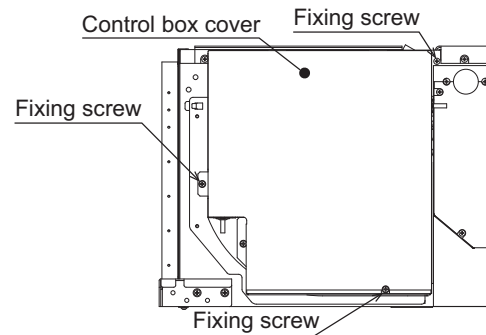

Fig.1
1. Remove the fixing screws shown in Fig. 1, and remove the control box cover.